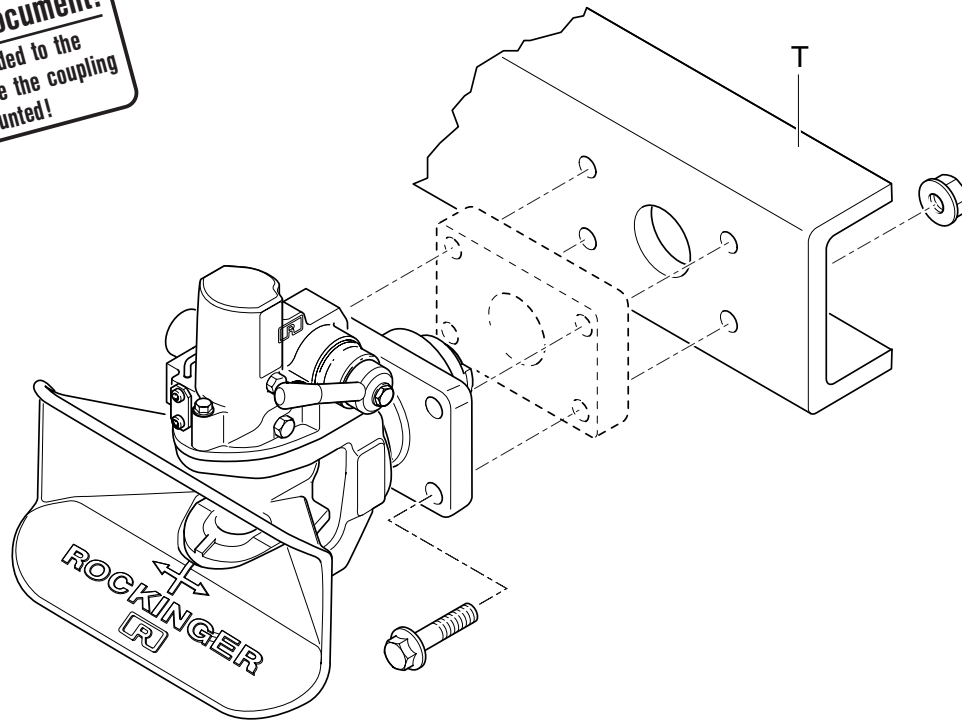

Fig. 1
- Mounting plate must be mounted to the crossbar (T)
- use the interim plate (see Fig. 1, Ref. no. 71053)
Caution: Bolt heads should be on coupling head side (outer side of crossbar) to avoid impairing movability of coupling (see Fig. 1)